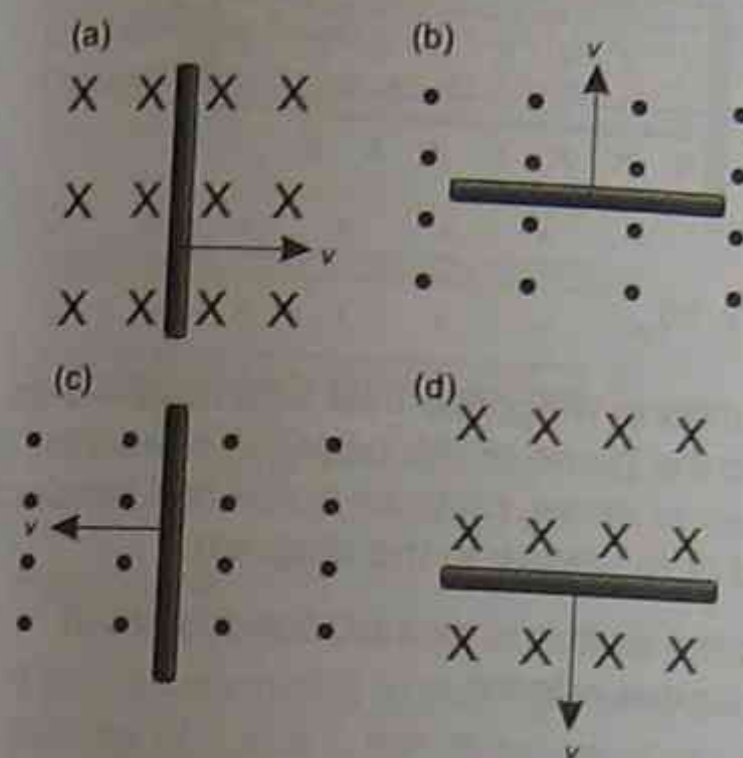

Figure 2.48
- 6 Label the direction of the induced current in the following situations as shown in Figure 2.48.